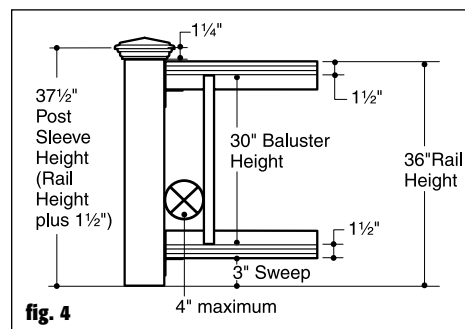

fig. 4
Step 5: Trim 4x4 post sleeves to length. Post sleeves should be a minimum of 1-1/2" longer than the railing height (Figure 4). Example - for a 36" high railing, trim post sleeve to a minimum of 37-1/2"; can be left longer if desired.
Step 9: Position the bottom rail between posts. Check building code requirements for maximum spacing between deck surface and bottom of rail (sweep). Spacing of 3" is recommended but can be more or less if codes allow (Figure 4). Mark screw locations on-center of post sleeve using the bracket as a template and pre-drill using a 1/8" drill bit. Attach bottom rail and repeat marking and pre-drilling the post sleeve for the other end. Attach to post with (4) 2" long screws.
Step 11: Determine the length of the balusters (Figure 4). Figure 4 illustrates how a 36" high railing might be sized. Starting with a 3" sweep plus 1-1/2" for the bottom railing, 30" baluster height plus 1-1/2" for the top rail equals a 36" rail height. If these are the dimensions that you are going to use, cut the balusters to 30" length using a cut-off or table saw. If you want to have your railing at a different height, use Figure 4 as a planning tool to determine the height to cut the post sleeves and the balusters. Note: Use a fixture to ensure a consistent length (+/- 1/16").